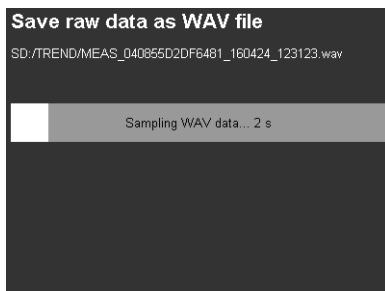

Figure 62: WAV recording
- **WAV:** Enables the raw data recording of the captured samples of a measurement channel in wave format, saved on an SD card in the TREND directory. A channel is recorded for 20 seconds at a sampling rate of 48828 samples/second with 24 bit resolution (figures 62 and 63). The samples are the raw data from the analog-to-digital converter. A gain of 1, 10 or 100 can be set before saving. The resulting output ranges are ± 10 V, ± 1 V or ± 0.1 V. A comment block ICMT containing information on the instrument and its settings is stored in the header data. Example: